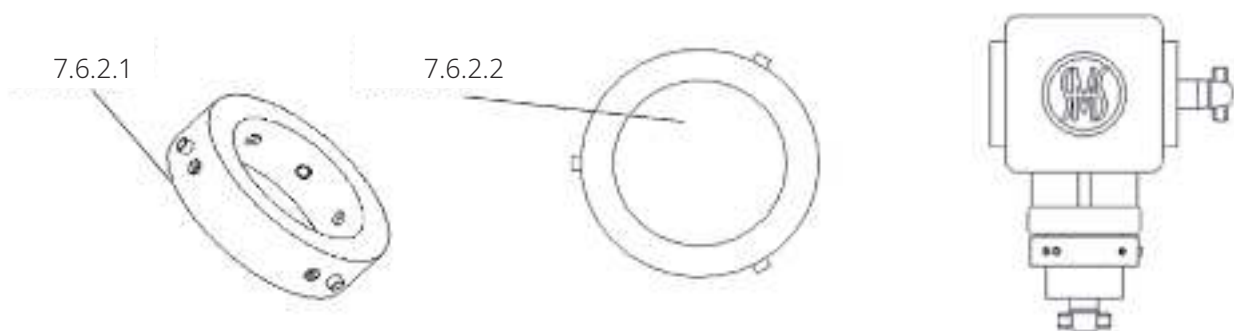

Figure 7.6.2
- 2) Place the bushing at the lower end of the bevel gearbox and secure it with four M6×10 locking screws (equally spaced at 90° intervals) (refer to Figure 7.6.2).